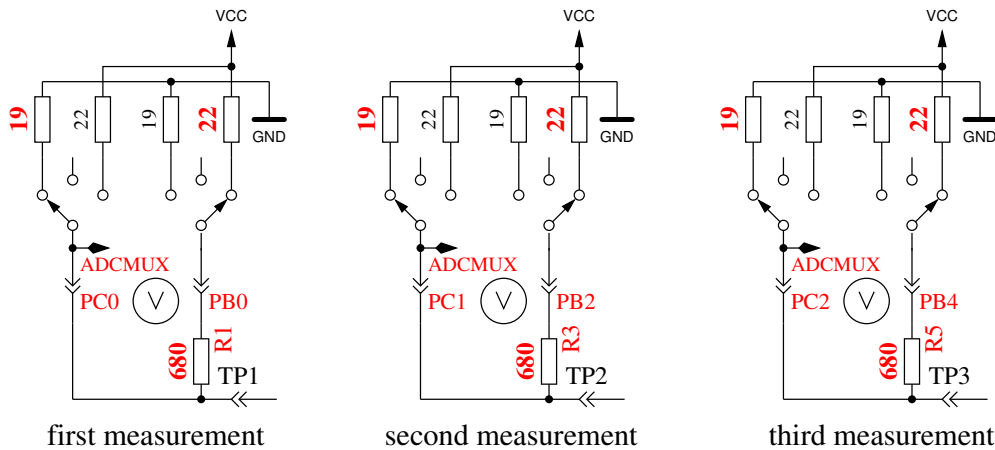

Figure 5.37: Measurement of internal resistance of Port C switched to GND
5. **This step tests the capability of GND (-) connected 470kΩ resistors (H) to pull the test pins to GND.** Row 1 shows the text “RH-”. Row 2 should display zero for all three pins.
6. **This step tests the capability of VCC (+) connected 470kΩ resistors (H) to pull the test pins to VCC (+).** Row 1 shows the text “RH+”. The results are shown als difference to VCC and should be near zero. Great differences from the best value for test 5 and 6 are errors such as isolation problem, flux material or damaged port.
7. **Measuring of internal resistance of pin output switched to the GND signal.** This test and the follwing tests will only be done, if the option AUTO_CAL is selected. The internal resistance of the port C outputs switched to GND (-) are measured with the current of to VCC (+) switched 680Ω resistors, see Figure 5.37. Only the three pins of the ADC port are measured, the resistor port B (PB0,PB2 and PB4) can not be measured without hardware modification. Is is assumed that the port resistance of the different ports are nearly identical. The resistor value will be shown in the next test.